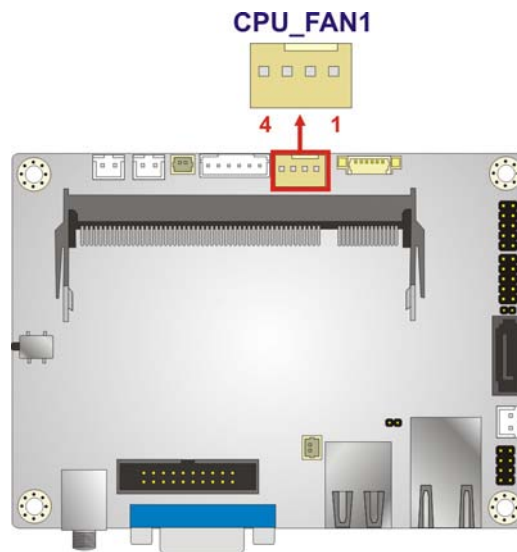

Figure 4-8: CPU Fan Connector Location
- CN Location: See **Figure 4-8**